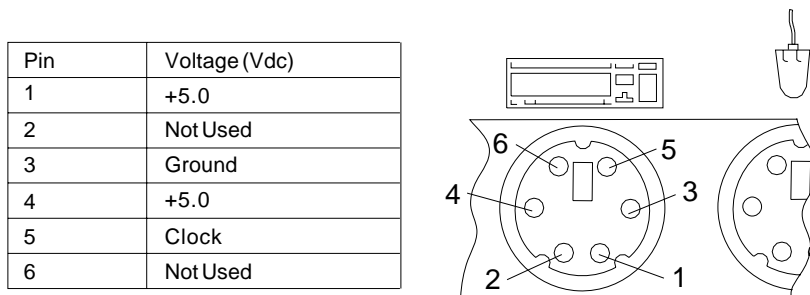

Figure 2-5. Keyboard Connector Voltage Check
- Check the voltage at the keyboard cable connector on the system board, shown in Figure 2-5, after the POST.